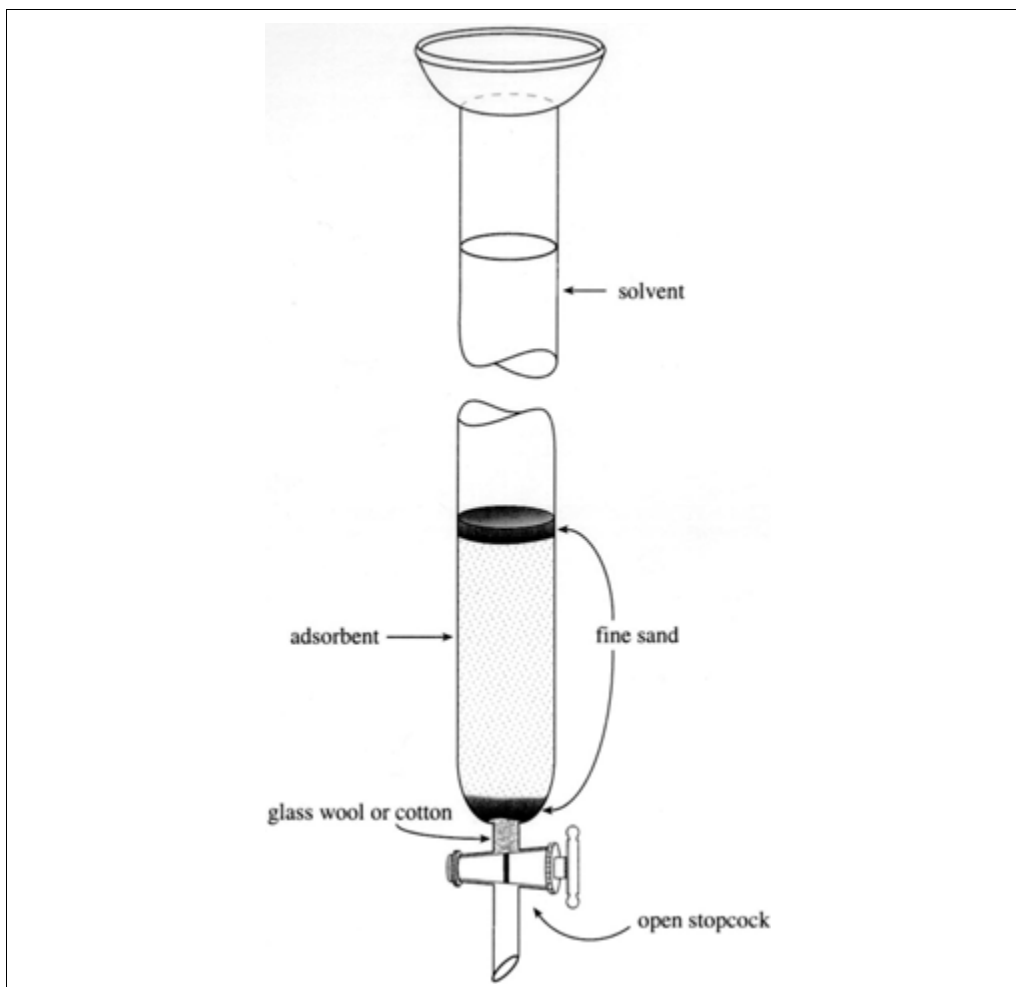

Figure A.3E.2 Packing a chromatography column.
- 4b. *Flash chromatography:* Attach the solvent reservoir to the top of the column using the appropriate clamp. Attach a compatible flow controller to the top of the solvent reservoir (Fig. A.3E.1).
Figure A.3E.1 Professional flash chromatography columns. (A) Conventional. (B) Screw-thread. Reprinted from Mayo et al. (1994) with permission from John Wiley & Sons.
Before carrying out column chromatography, the glass column must be packed with the appropriate adsorbent and a suitable solvent (Fig. A.3E.2). There are two methods for packing a column: wet packing and dry packing. Wet packing can be messy, but this technique works every time and is preferred for packing silica gel columns. Dry packing often results in the formation of air bubbles that can be difficult to remove. When this happens, the column must be repacked; however, when alumina is used as an adsorbent, the preferred method is dry packing, as wet packing with alumina requires making a slurry that is difficult to pour.